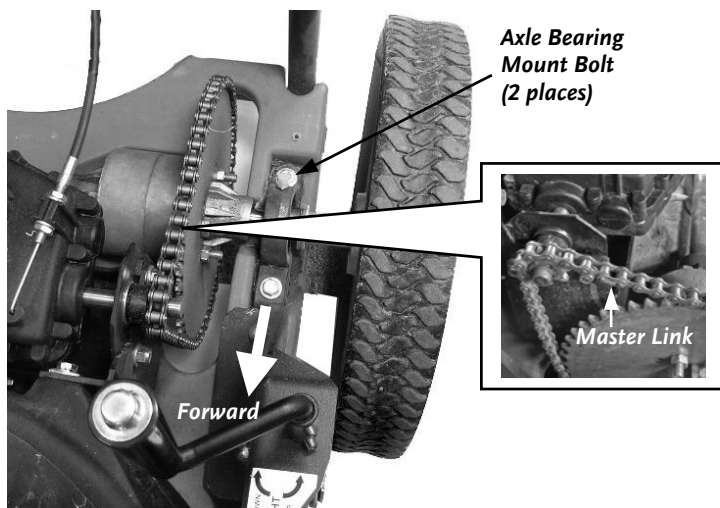

Figure 24
3. Using two (2) 1/2" Wrenches or Sockets, loosen the left side (viewed from behind Handlebars) Axle Bearing Mount Bolts and then slide the Bearing forward to the end of its travel (**Figure 24**).
4. Rotate the Left Rear Wheel to bring the Drive Chain "Master Link" into view on the Axle Sprocket (**Figure 24**).